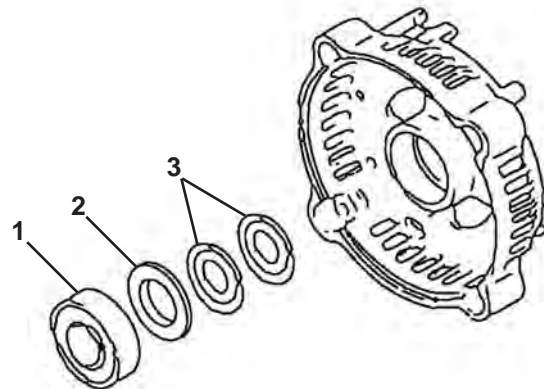

Figure 11-12
- If removed, reinstall the two thrust washers (**Figure 11-12, (3)**) and bearing cover (**Figure 11-12, (2)**) in the rear frame housing. Lubricate the outside diameter of a new bearing (**Figure 11-12, (1)**). Press the bearing into the rear frame housing.